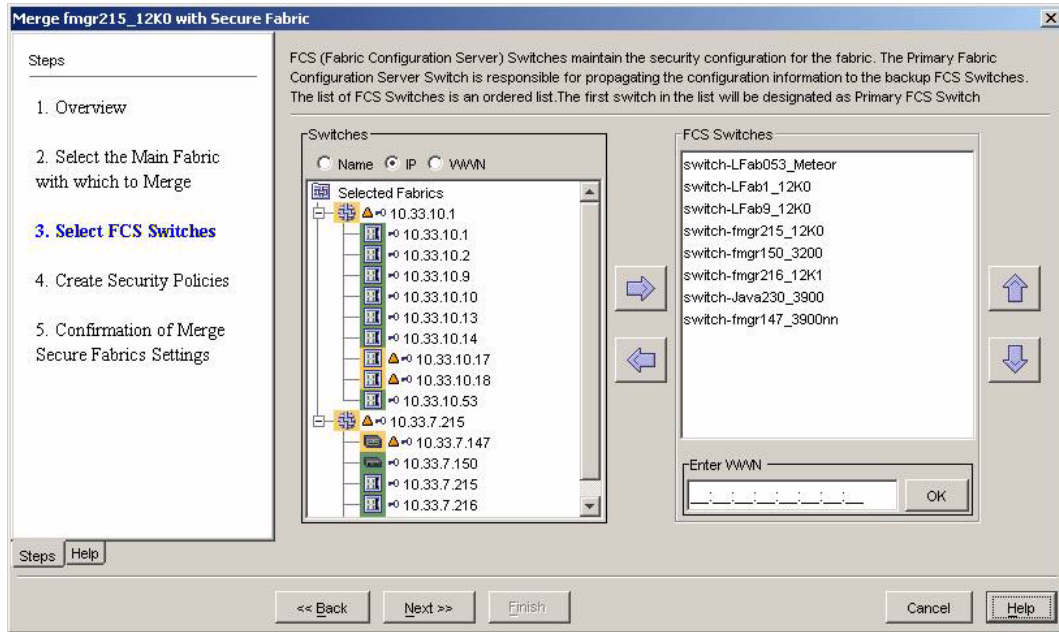

Figure 186 Select FCS switches
- Compatible parameters; the Select FCS Switches window opens (see Figure 186).